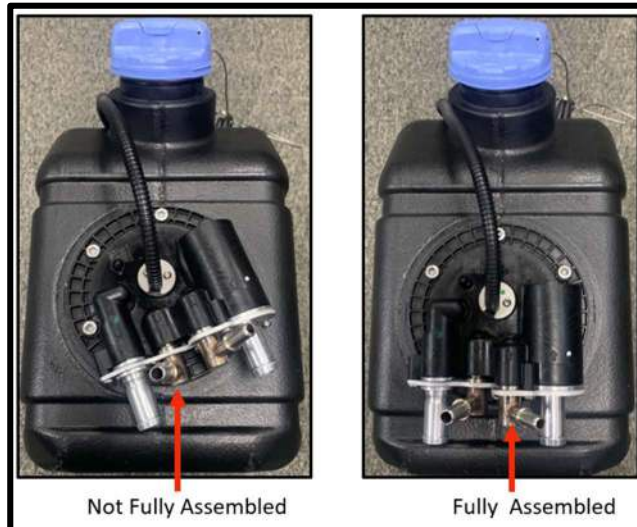

Figure 2.11 Installation of Head Unit
- 9) Push down the head unit while rotating it clockwise till it comes to a stop then rotate the head unit again till it reaches the final position as shown in **Figure 2.11**
*Note: Installation of the head unit is a two-step process. You may feel the head unit is fully assembled before it reaches its final position but continue to rotate it till it reaches to final position. Refer above **Figure 2.11***